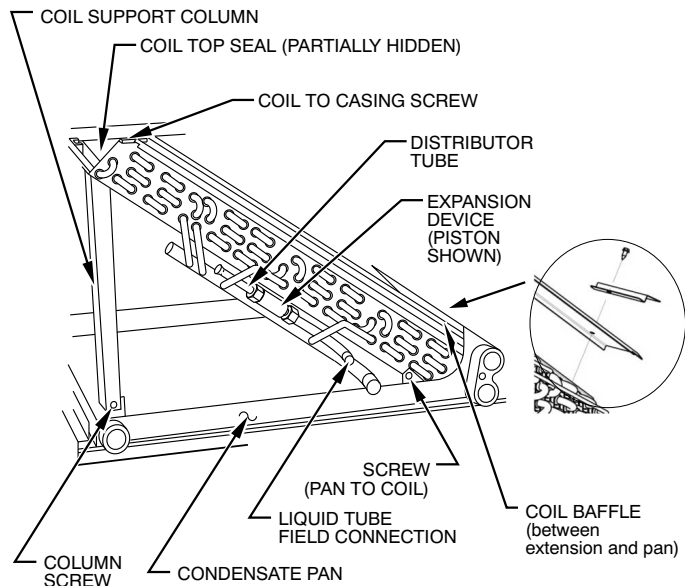

Fig. 33 – Slope Coil Component Location (Prior to 1996)
8. Place assembly on a flat surface. On units manufactured prior to 1996, remove two screws securing coil support columns to pan (Fig. 33).
10. Remove two screws securing coil to condensate pan (Fig. 33 and Fig. 34).
12. Attach new painted Top Seal to new coil using brass colored screws included with packaging (Fig. 33 and Fig. 34).
13. Remove screw at bottom of coil extension and reuse to attached Coil Baffle in same location. Long side of baffle toward pan (Fig. 33 and Fig. 34).
15. Install new coil pan assembly into unit and secure with one screw previously removed from unit casing (Fig. 33).